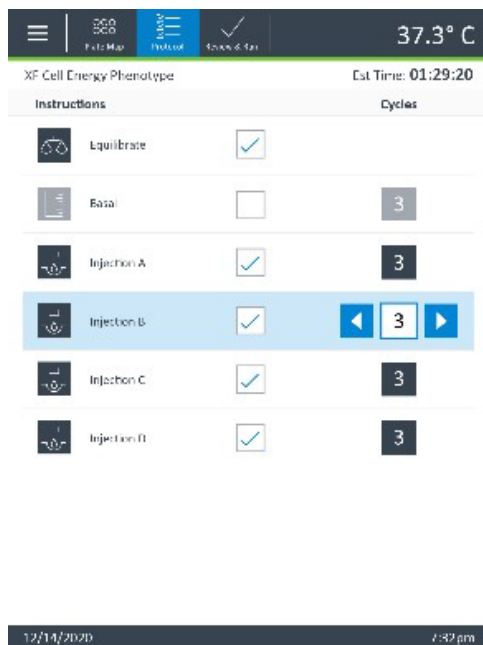

Figure 5. Instrument protocol page.
- 1 Check that all desired steps are selected, check boxes checked (**Figure 5** on page 17). Agilent strongly recommends performing equilibration for all cell-based XF assays.
b Use the arrows to adjust the number of cycles up or down. See **Figure 5**.